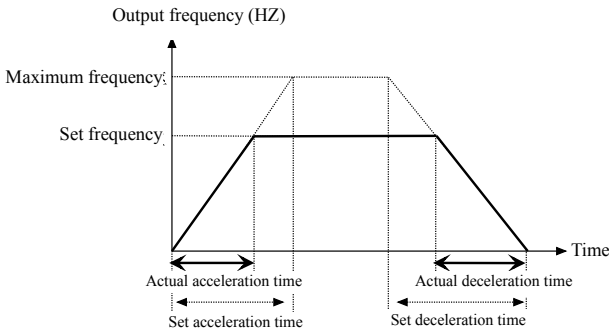

Fig. 5-1-5 Linear acceleration/deceleration
- ◆ Linear Acc/Dec mode used for ordinary load: The output frequency increases or decreases according to a constant rate. As shown in Fig. 5-1-5.